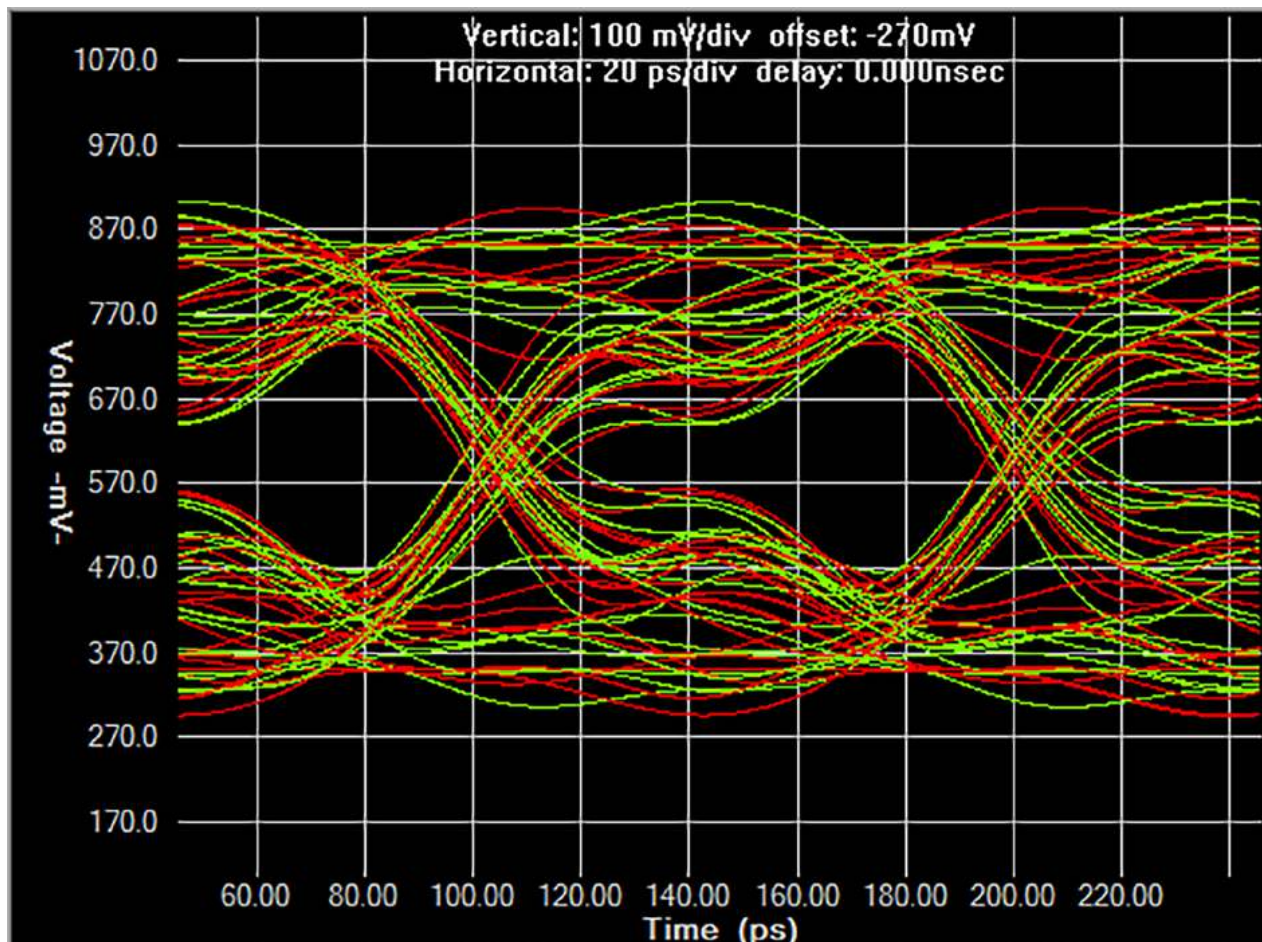

Figure 1: Reflections cause over/undershoot and jitter of the signal eye.
driver and load, the signals propagating electromagnetic (EM) energy are totally absorbed by the load. This is the perfect scenario that all electronics designers strive for. However, this is rarely the case, and reflections do occur whenever the impedance of the transmission line changes along its length. Mismatched impedance causes signals to reflect back and forth along the lines, which causes ringing at the load (Figure 1). The ringing reduces the